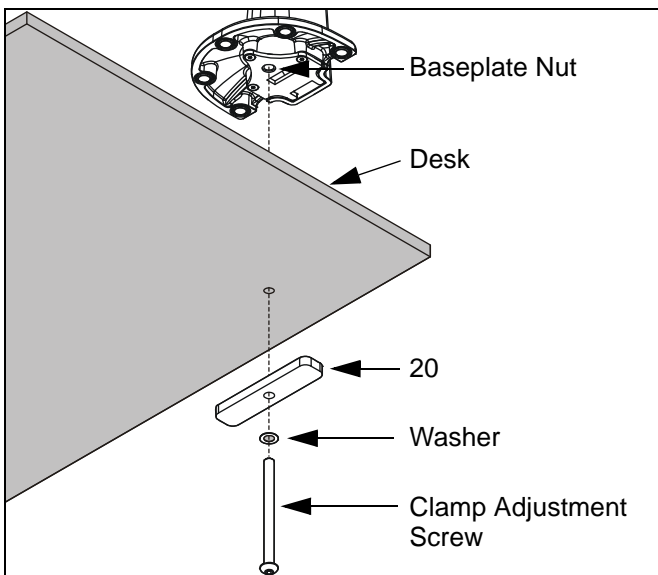

Figure 8: Desk Mount - Hole Installation
4. From below desk, insert retained clamp adjustment screw and washer through bracket (20) and up through hole in desk (See Figure 8). Using 3/16" hex key, thread screw into baseplate nut but do not tighten completely at this time.